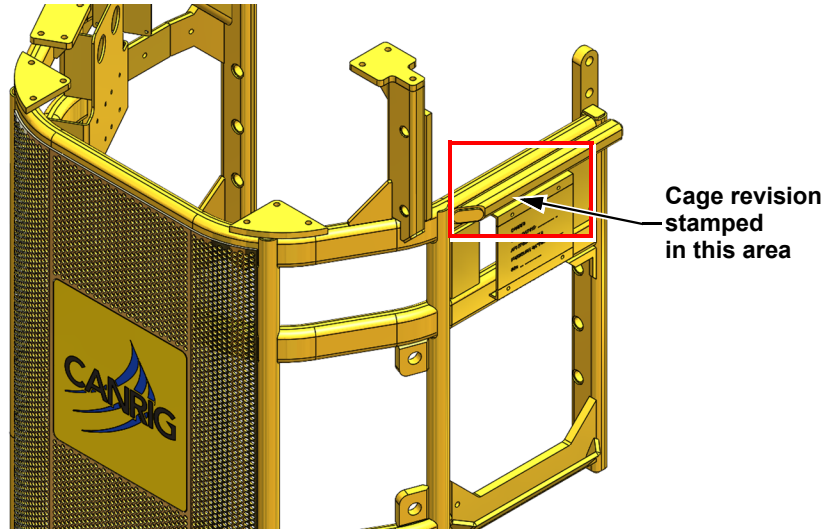

Figure 2: Location of Revision stamped on the cage
1. Determine the revision of your Cage. To do this, check the stamped revision number on the cage, see Figure 2 on page 3 for location.